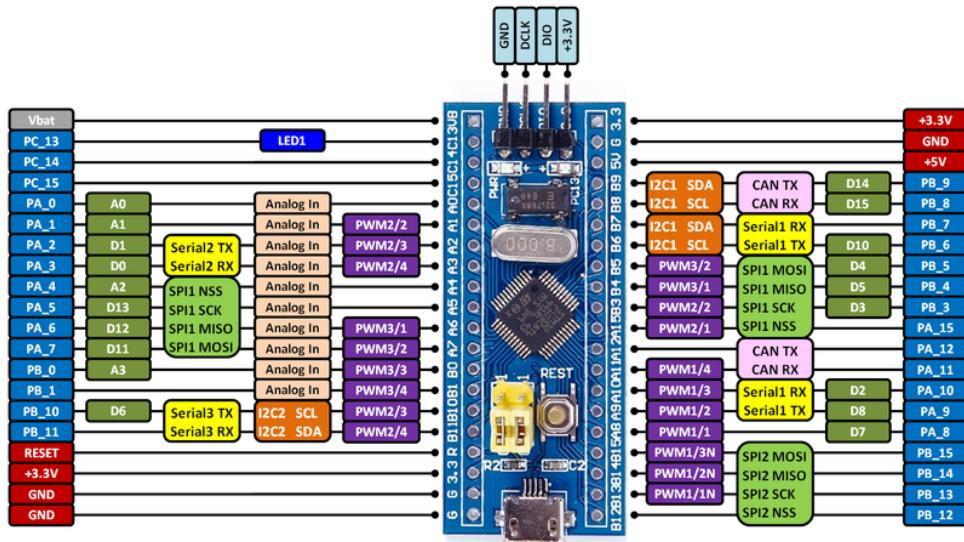

Fig. 11.1: Pin Connections of STM-32
1. The STM32F103C8T6 micro-controller is shown in Fig. 11.1